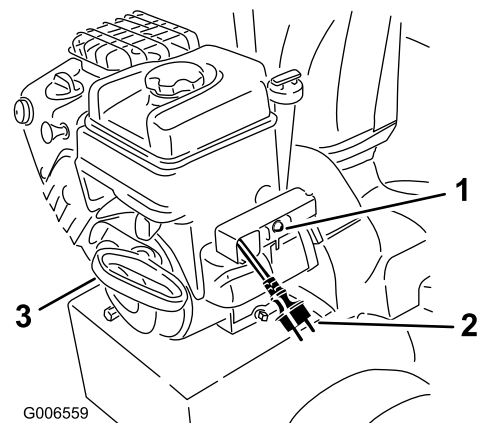

Figure 23
7. Start the snowthrower pulling the recoil starter or pressing the electric-starter button (Figure 23).